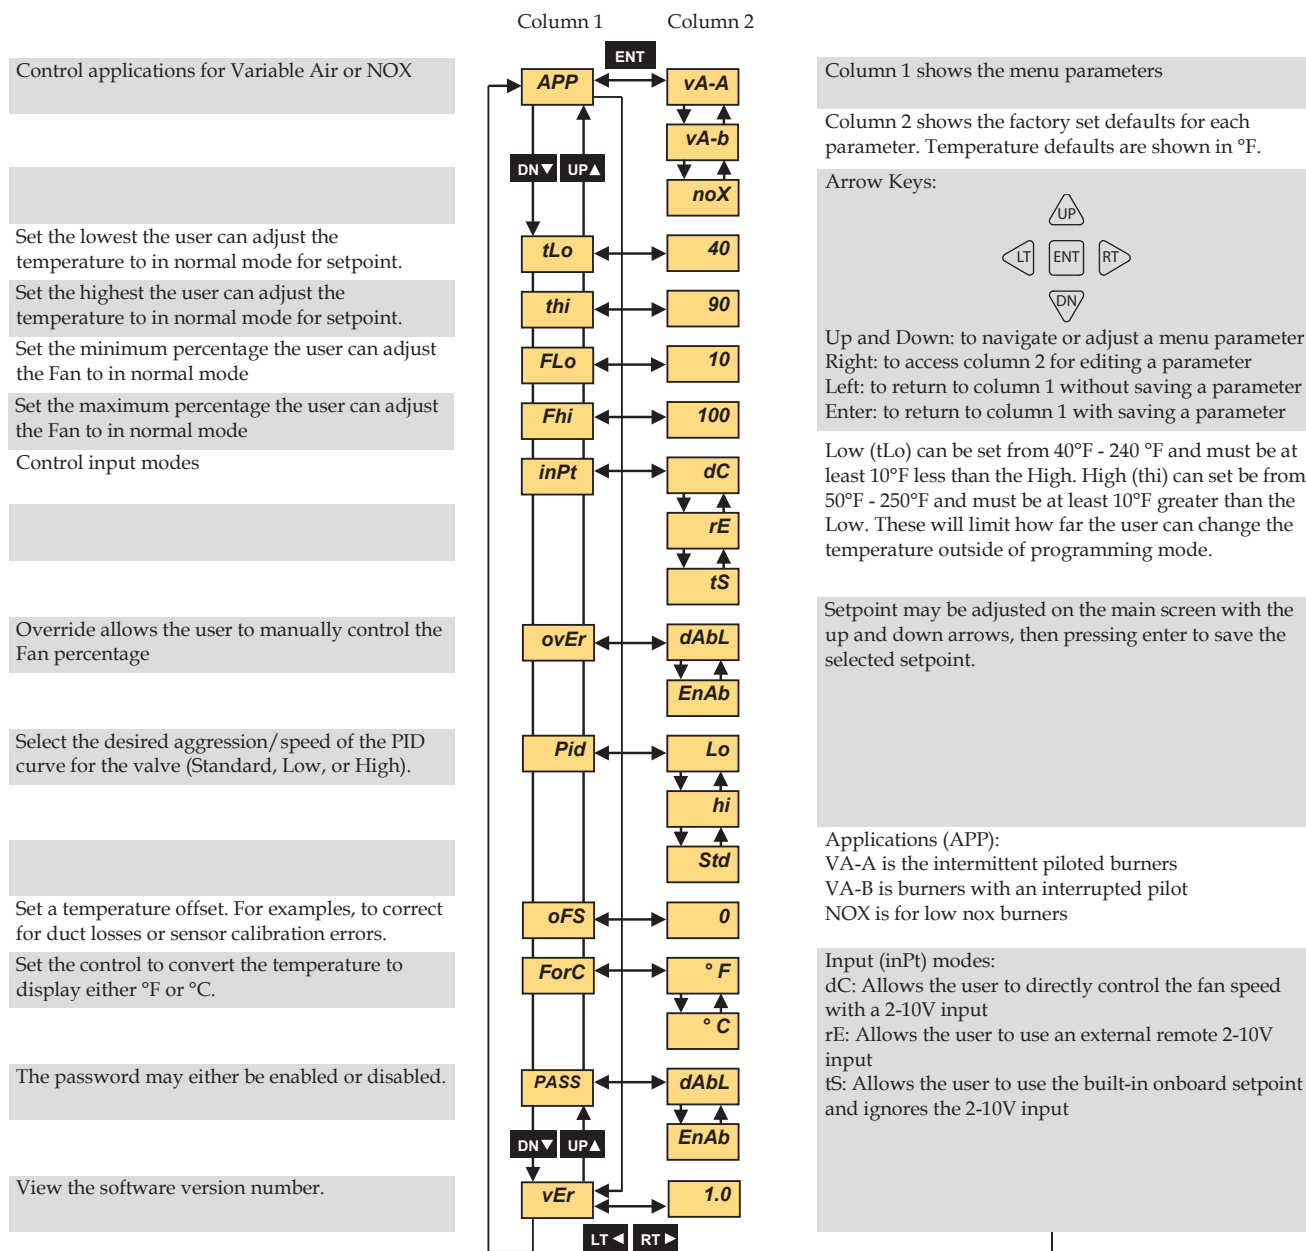

Figure 8.
- Modulate the burner until the load line pressure is 2.0" W.C. by adjusting the input voltage to the burner. See page 9, Figure 8 for manual adjustments.
- Modulate the burner to high fire by applying a 10V DC input signal. See page 9, Figure 8 for manual adjustments.
- Refer to the Figure 8, page 9, for an overview of the program menu. To enter the program menu, hold the enter key down for 3 seconds until "APP" is displayed. Use the up and down arrow keys to navigate to the desired parameter as shown in column 1. To edit a menu parameter, press the right arrow key once on the desired parameter. The current value of the parameter will be displayed. Use the up and down arrow keys again to edit the parameter. Press the enter key to save changes made or press the left arrow key to cancel without saving and return to column 1. If a key is not pressed for 20 seconds or the enter key is held for 3 seconds while in program mode, the control will return to normal mode.